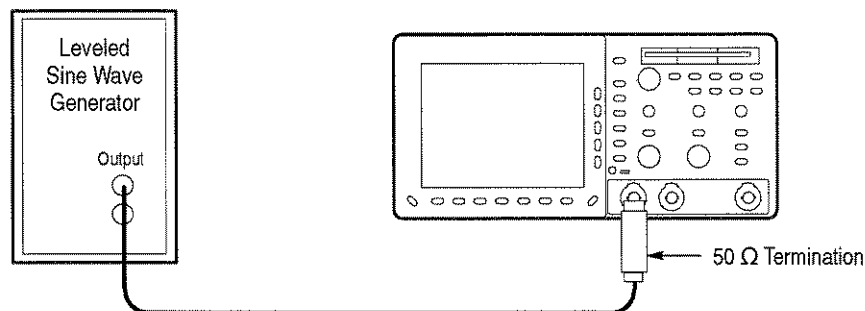

Figure B-3: Hookup for analog bandwidth check
1. Connect, through a 50 Ω precision cable and a 50 Ω termination, the sine wave output of a leveled sine wave generator to **CH 1** (see Figure B-3). Set the output of the generator to a reference frequency of 50 kHz.